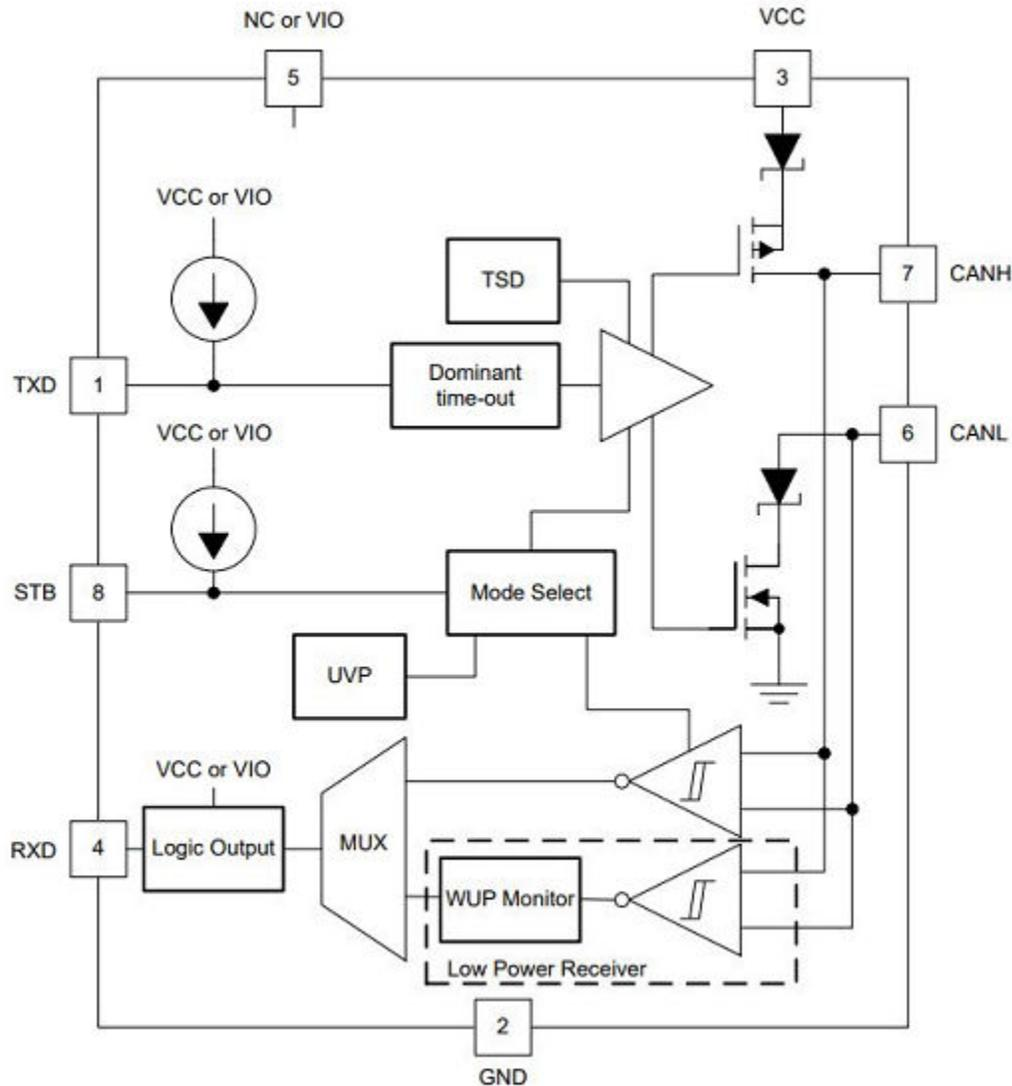

Figure 1-1. TCAN1044-Q1/TCAN1044V-Q1 Functional Block Diagram
Figure 1-1 shows the device functional block diagram for reference. TCAN1044V-Q1 has the VIO input at pin 5, while TCAN1044-Q1 has a no connect (NC) at pin 5.